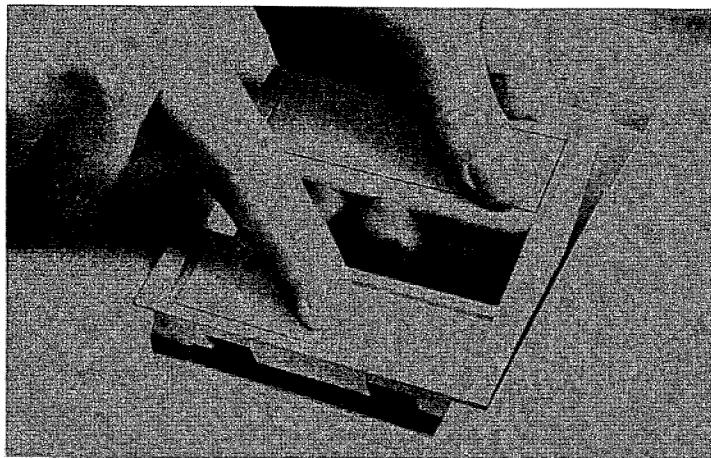
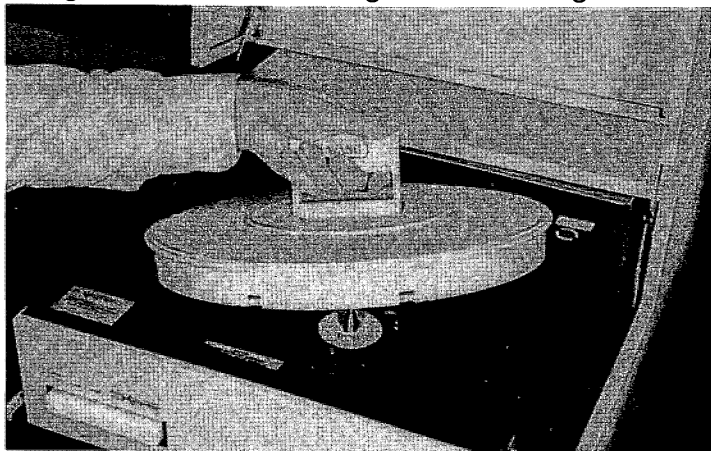
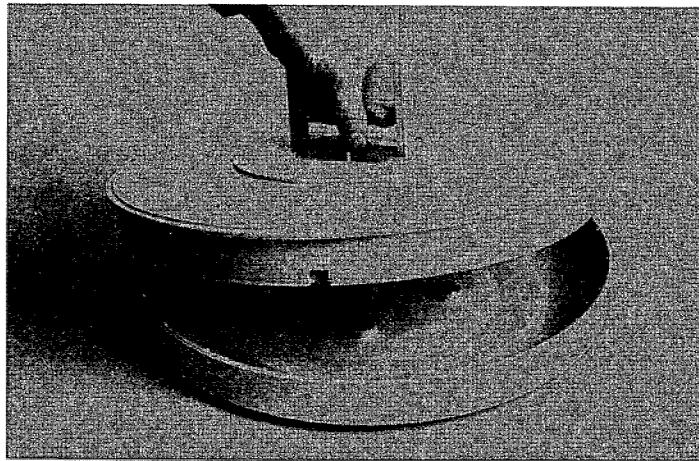

Figure 2-5. Releasing the Cartridge Lock
Figure 2-6. Removing the Cartridge from the Cartridge Bowl
Figure 2-9. Separating a Cartridge from the Dust Cover
Step 4 With the handle laying flat, slide the tab on the cartridge handle to the left and hold the tab in place while raising the cartridge handle upright (Figure 2-5). This action separates the disk cartridge from the disk drive, and the cartridge may be lifted out of the cartridge bowl (Figure 2-6).
- Step 3 Remove the new disk cartridge from its dust cover by sliding the tab on the cartridge handle to the left and holding it in position while lifting the handle (Figure 2-5). This action separates the disk cartridge from the dust cover, and enables you to lift the cartridge away from the cover (Figure 2-9).